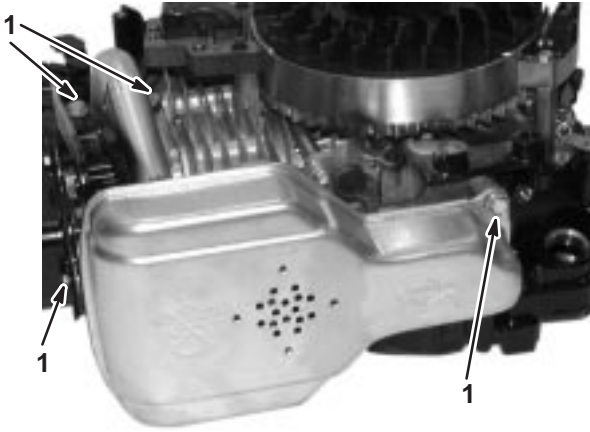

Fig. 151 – Installing Muffler
3. Install two screws in muffler flange and torque to 85 in. lbs. (10.0Nm), Fig. 151.
4. Install screw in muffler bracket to cylinder head and torque to 85 in. lbs. (10.0Nm), Fig. 151.